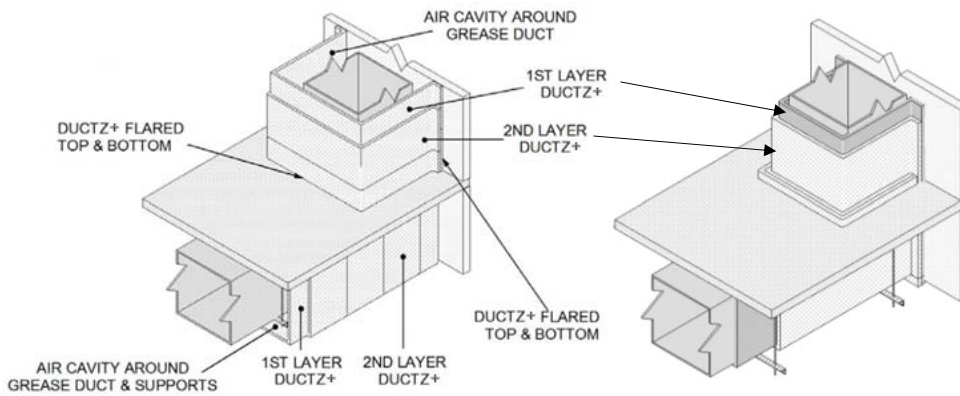

Figure 3. Three-Side Installation Top Isometric (Shown with and without Optional Air Cavity)
B. THREE-SIDED INSTALLATION – Refer to Figures 3 and 4.